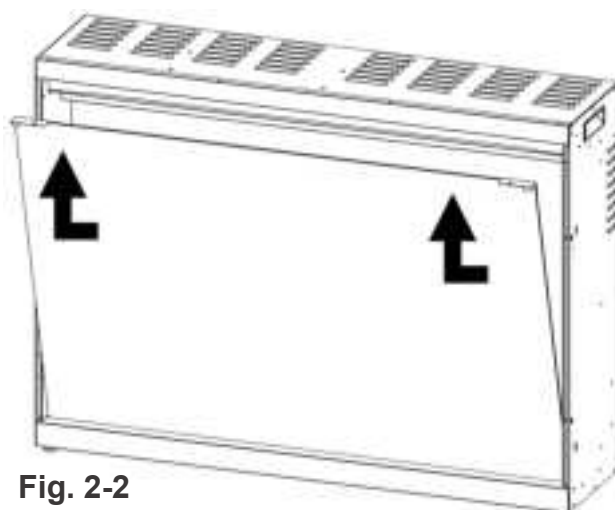

Fig. 2-2
- B. Carefully lift the front glass up and away from the appliance. Place them face down on a soft, nonabrasive surface. (Fig. 2-2)